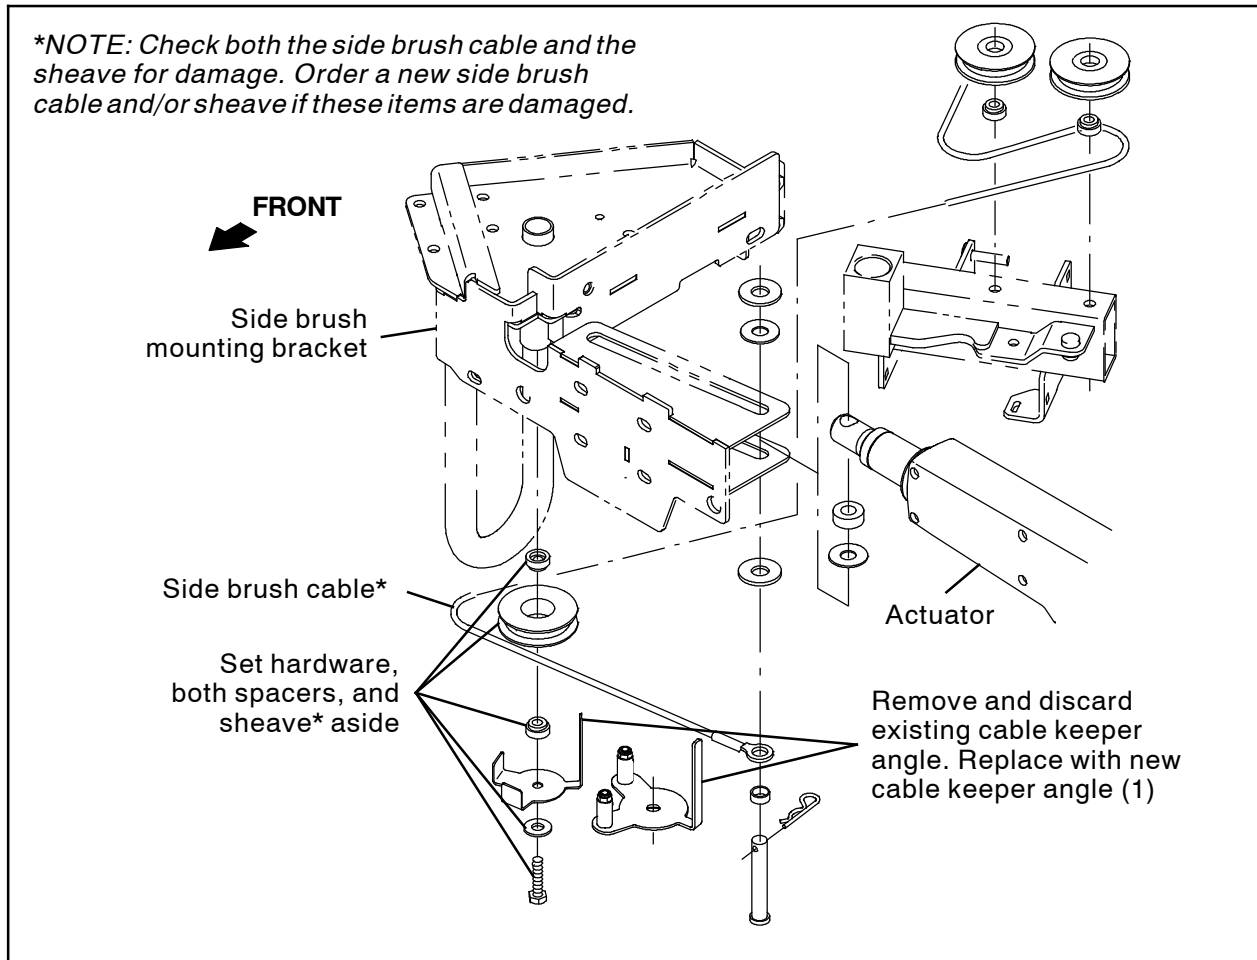

FIG. 2
2. Disconnect the side brush cable from the side brush mounting bracket to remove tension from the cable keeper angle assembly. (Fig. 2)
3. Remove the existing cable keeper angle from the machine. Set all hardware, spacers, and the sheave aside. Discard the cable keeper angle. (Fig. 2)
5. Use the M8 screw from the previous step and remaining saved hardware to install the sheave, spacers, and the new cable keeper angle (1) onto the side brush mounting bracket. Torque hardware to 16- 21 Nm (11.80- 15.50 ft. lbs). (Fig. 2)
6. Reconnect the side brush cable to the side brush mounting bracket. (Fig. 2)
7. Start and test the machine. Raise and lower the side brush and observe the newly installed cable keeper angle assembly. The cable keeper spacers (5) on the cable keeper angle (1) should not touch the sheave. The side brush should move smoothly with no binding when raised and lowered.